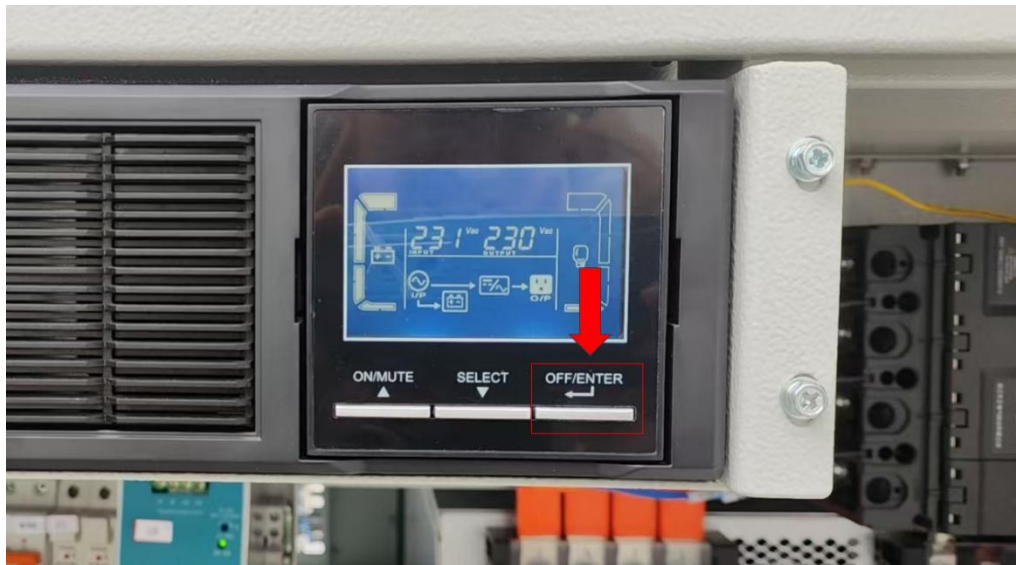

Figure 6.12 Shutting down UPS
Step 5: Press and hold the OFF button on the UPS to turn off the UPS as shown in Figure 6.12.